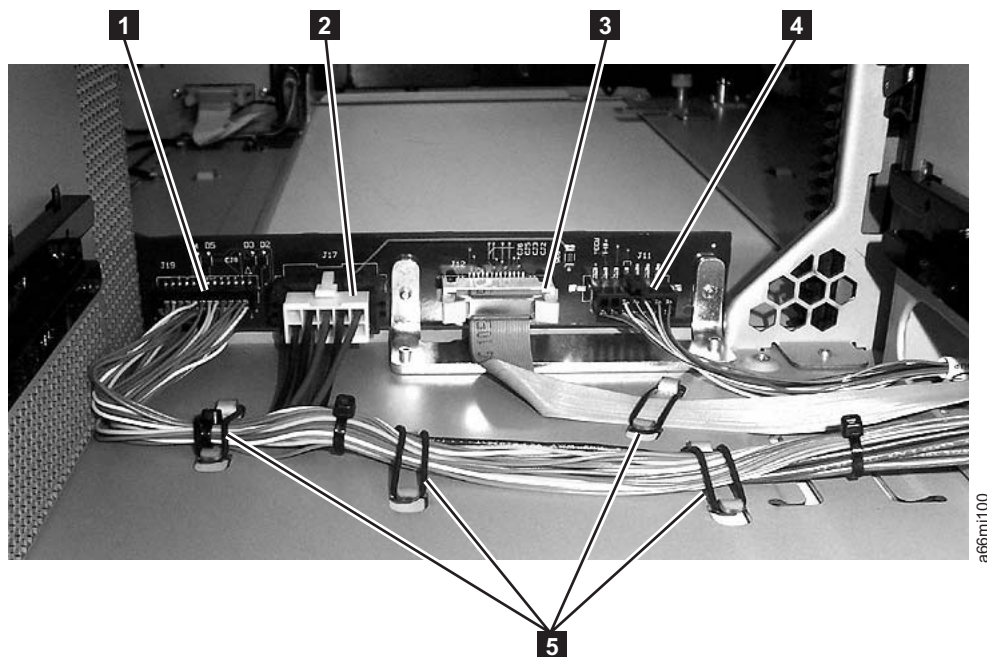
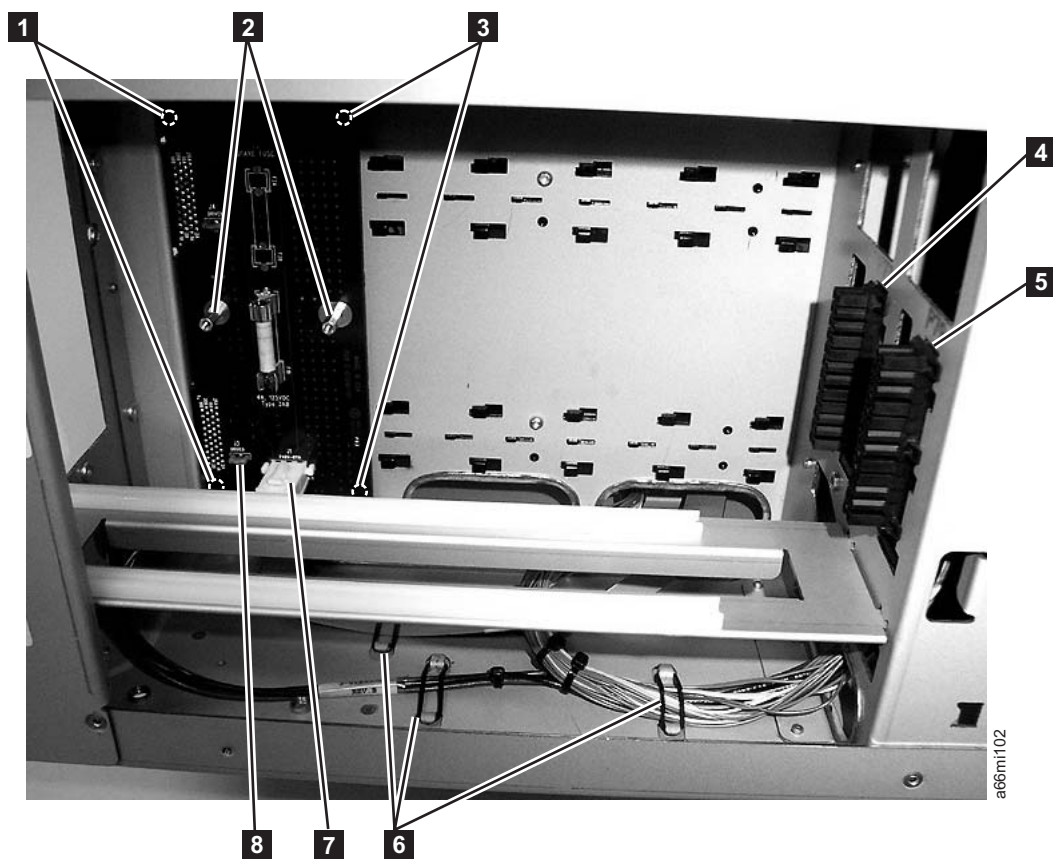

Figure 8-115. Backplane Connector Board (BCB), Rear View
Figure 8-116. Drive Sled Interface Board (DSIB), Side Cover Removed
- c. Remove the cable retainers (**5** in Figure 8-115 on page 8-107 and **6** in Figure 8-116 on page 8-107).
- d. Remove cable connectors J77 (**4** in Figure 8-116 on page 8-107) and J79 (**5** in Figure 8-116 on page 8-107). Pinch the lower part of the connector, press towards the front and slide down to remove the connector from the frame.
- e. Unplug the 2 connectors P17 and P19 from the BCB (see **2** and **1** in Figure 8-115 on page 8-107).
- f. Remove the 2 screws (**2** in Figure 8-116 on page 8-107) and remove the protective cover over the DSIB.
- g. Unplug the 1 power connector P1 (**7** in Figure 8-116 on page 8-107) from the DSIB.
- 1) Unplug connector P2 (**8** in Figure 8-116 on page 8-107) from the DSIB.
- 2) Unplug connector P12 (**3** in Figure 8-115 on page 8-107) from the BCB.
- a. Remove the 2 hex stand-offs (**2** in Figure 8-116 on page 8-107) from the DSIB. This requires a 4.5 mm (3/16-inch) wrench.
- b. The DSIB is held to the frame by slotted pins (**1** and **3** in Figure 8-116 on page 8-107) in all 4 corners of the board.
- 1) Using a flat blade screwdriver, carefully pry the 2 front corners of the board (**3** in Figure 8-116 on page 8-107) from the mounting pins.
- 2) Put finger pressure on the drive connectors on the back of the DSIB one at a time, while you move the board back and forth to pull it from the corner mounting pins (**1** in Figure 8-116 on page 8-107).